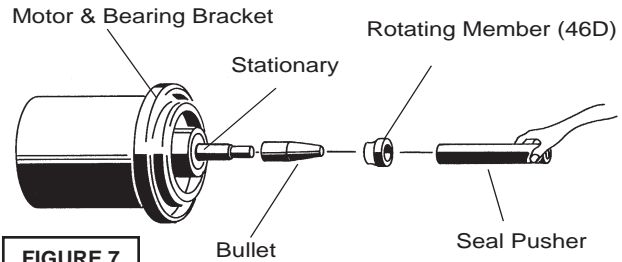

**FIGURE 6**
Make sure the stationary members are in straight and that the rubber ring is not out of its groove. Lightly oil (**DO NOT use grease**) shaft and inner surface of bellows on rotating member (46D) See Figure 7. With lapped surface facing bearing bracket (21), slide rotating member (46D) onto shaft, using seal pusher, until lapped faces of (46D) and (46E) are together (See Figure 6). It is extremely important to keep seal faces clean during assembly. Dirt particles lodged between these faces will cause the seal to leak.